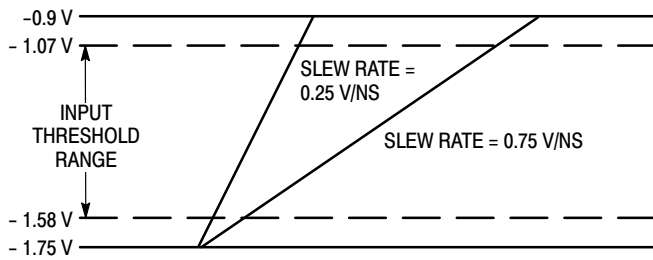
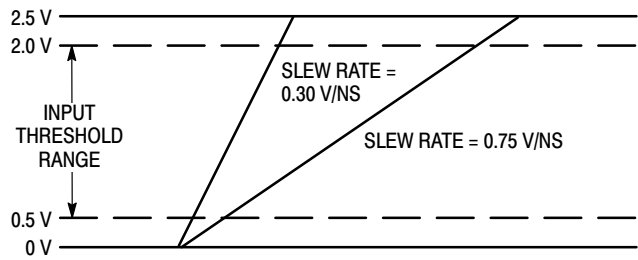

Figure 4. ECL Dispersion Test Input Conditions
Figure 5. TTL Dispersion Test Input Conditions
- Refer to figure 4 and note that the input is at 850mV ECL levels with the input threshold range between the 20% and 80% points. The delay is measured from the crosspoint of the input signal and the threshold value to the crosspoint of the Q and \overline{Q} output signals.
- Refer to Figure 5 and note that the input is at 2.5 V TTL levels with the input threshold range between the 20% and 80% points. The delay is measured from the crosspoint of the input signal and the threshold value to the crosspoint of the Q and \overline{Q} output signals.
Figure 4 and Figure 5 define a range of input conditions which incorporate varying input slew rates and input voltage overdrive. For input parameters that adhere to these constraints the propagation delay can be described as: